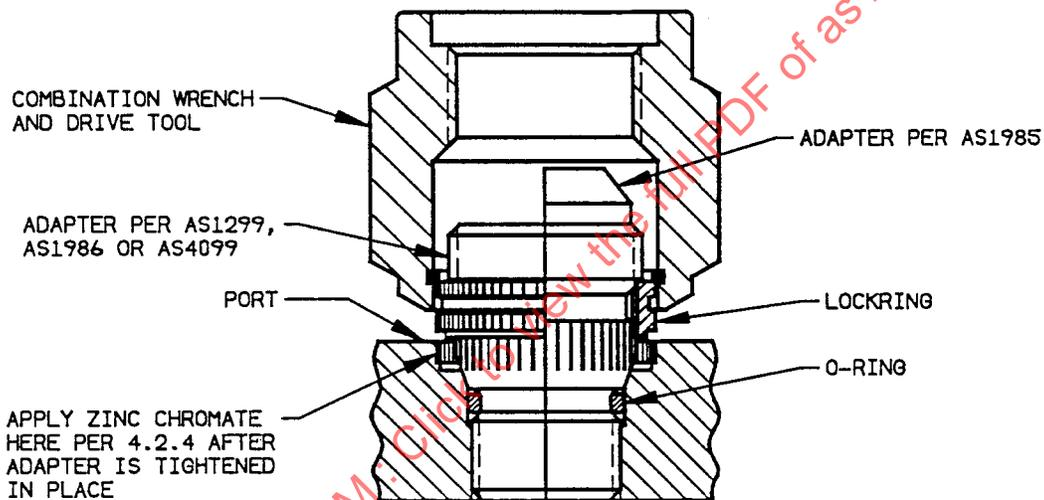

FIGURE 3 - Torquing Adapter Assembly
- 5.2.3 Using the applicable combination wrench and drive tool in Table 3, engage the serrations of the tool with the external serrations of the adapter locking per Figure 3. Place a torque wrench of the proper size over the hex of the wrench and apply a torque equal to the minimum value specified in Table 3. Note the relationship of the locking serrations with respect to the prebroached serrations in the port. If they match, proceed to 5.2.4. If the locking serrations do not match the prebroached serrations in the port, continue to slowly torque the adapter toward the maximum value allowed in Table 3 until the serrations match. This will normally take between 3° and 8° of turning, the maximum value need not be reached if the serrations align themselves prior to that value. Do not exceed maximum torque values.